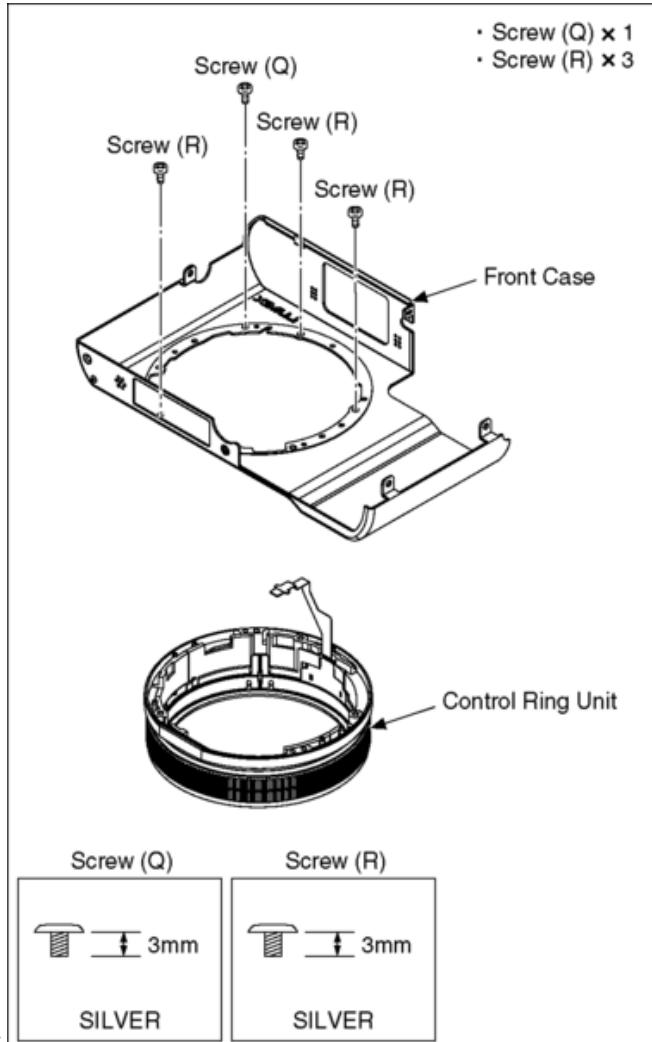

Fig. D17
| 14 | Front Case, Control Ring Unit | (Fig. D17) | Screw (Q) × 1 Screw (R) × 3 Front Case Control Ring Unit |